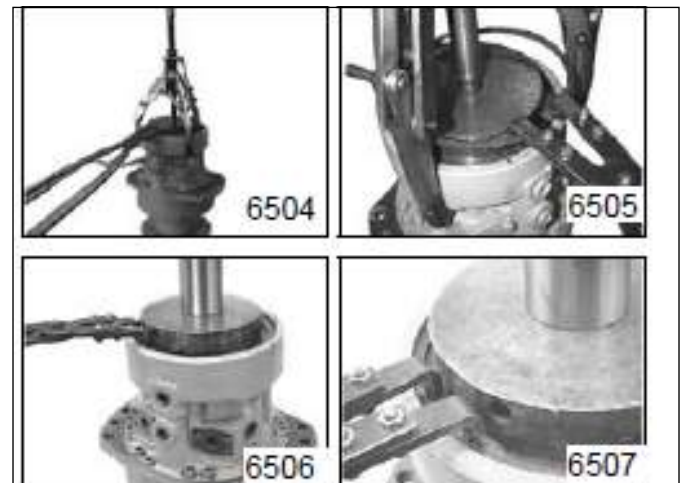

Figure 3-31: Compress Spring Washer
5. Compress the spring washer, service kit P/N 157495, item 108. **See Figure 3-31.** Compress the spring using mandrel P/N 157492, with brake service insert P/N 156198.